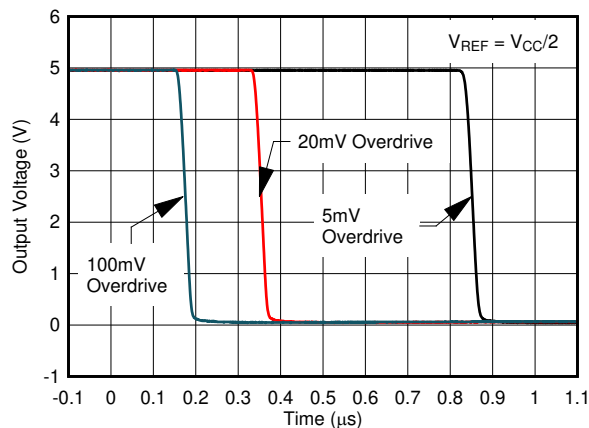

Figure 5-11. Response Time for Various Overdrives, High-to-Low Transition
- R_{CE} can be determined by taking the slope of Figure 5-11 in the linear region at the desired temperature, or by dividing the V_{OL} by I_{OUT}